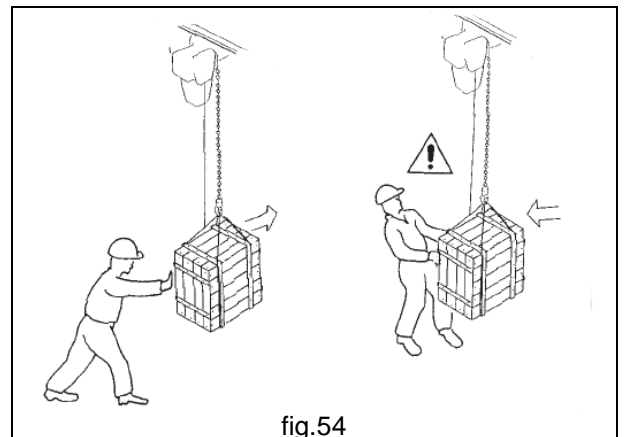

fig.54
- **During manual rotation manoeuvres of the arm** the operator must handle the load by pushing it and never by pulling it towards himself, to avoid the risk of crushing (fig.54).